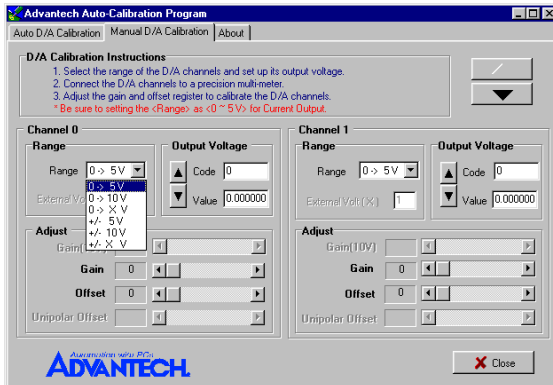
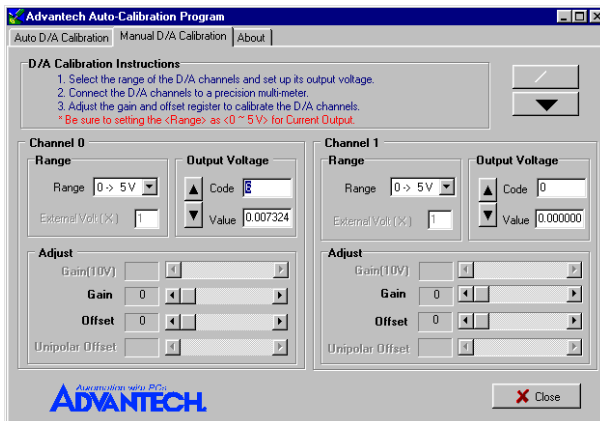

Figure D-9: Selecting D/A Range
Figure D-10: Choosing Output Voltage
Step 2: For example, choose channel 0; select the Range and select the wished output voltage code or value from the radio buttons (Fig. D-9 and Fig. D-10).